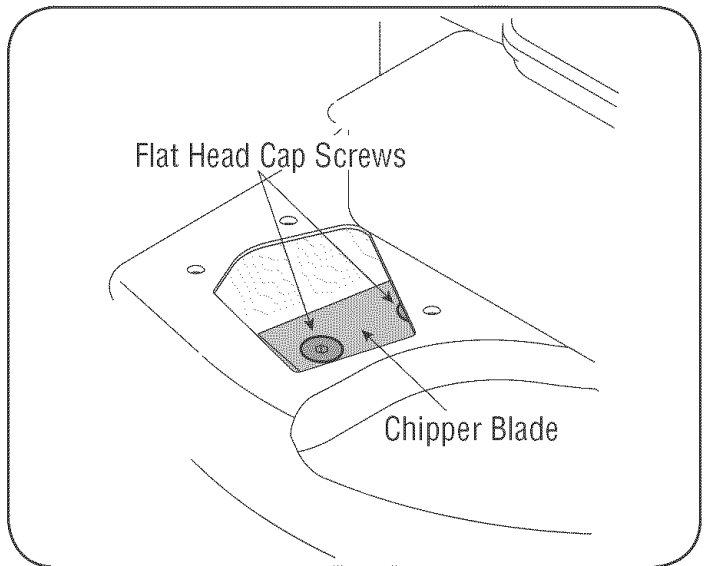

Figure 20
9. Using a 3/16" allen wrench, remove the flat head cap screws that hold the chipper blade to the impeller. These screws are accessible through the opening created when the chipper chute was removed earlier. See Figure 20.